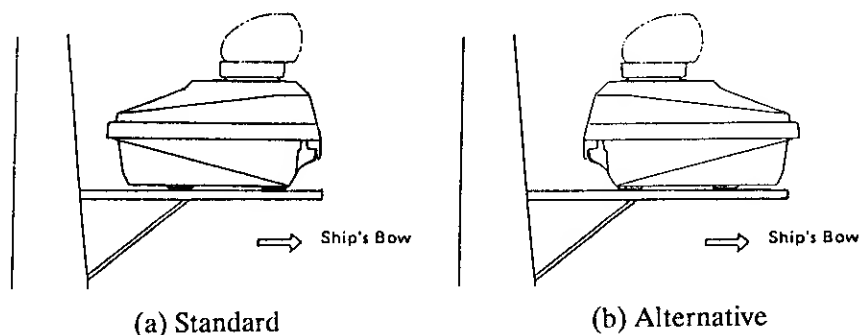

Figure 6-1 Mounting of Scanner Unit
1. Figure 6-1 (a), the scanner outline drawing on page D-2 and the scanner platform template supplied as an installation material show the standard mounting method, i.e., the scanner upper housing ("lid") opens toward the bow. However, the scanner unit may be mounted so the scanner upper housing opens toward the stern. See Figure 6-1 (b). No modifications are required for the former method, however some modification is required for the latter. Refer to page 6-7. In both cases, adjust relative bearing alignment (shown on page 6-17).
4. Place the scanner housing on the chosen position, and orient it as shown in Figure 6-1 (a), or (b).